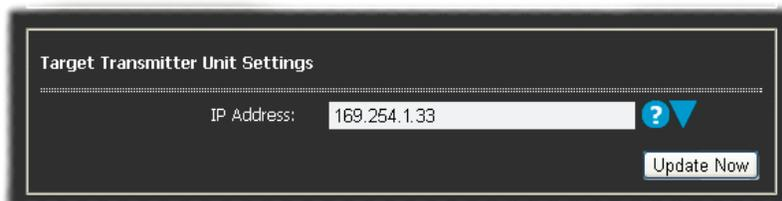

Figure 5-4. The (combined) IP address for the remote receiver unit.
- 2 In the System Configuration page, within the Target Transmitter Unit Settings section, change the current IP address to the address of the new local (transmitter) unit. See Figure 5-4.